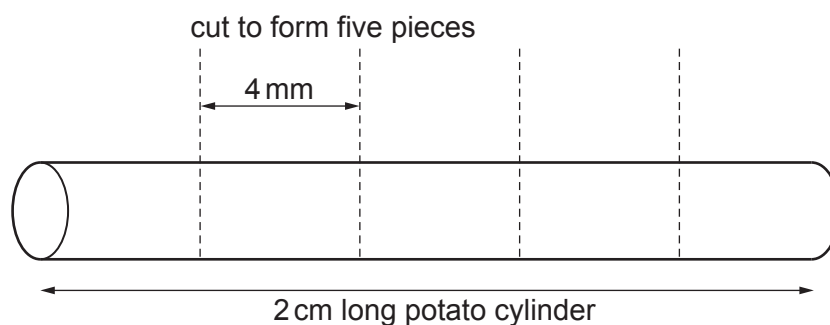

Fig. 1.1
- Step 3 Cut a potato cylinder into five equal pieces. Each piece should be approximately 4 mm in length, as shown in Fig. 1.1.